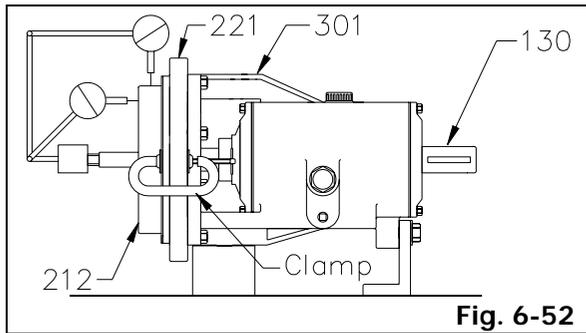

Fig. 6-52
3. Check stuffing box cover (212) run out. Clamp stuffing box cover (212) tight to bearing bracket (301), adaptor extension ring (221) or frame adaptor (220). Rotate shaft (130) through 360°. If total indicator reading is greater than 0.13mm, determine cause and correct before proceeding (Fig. 6-52).